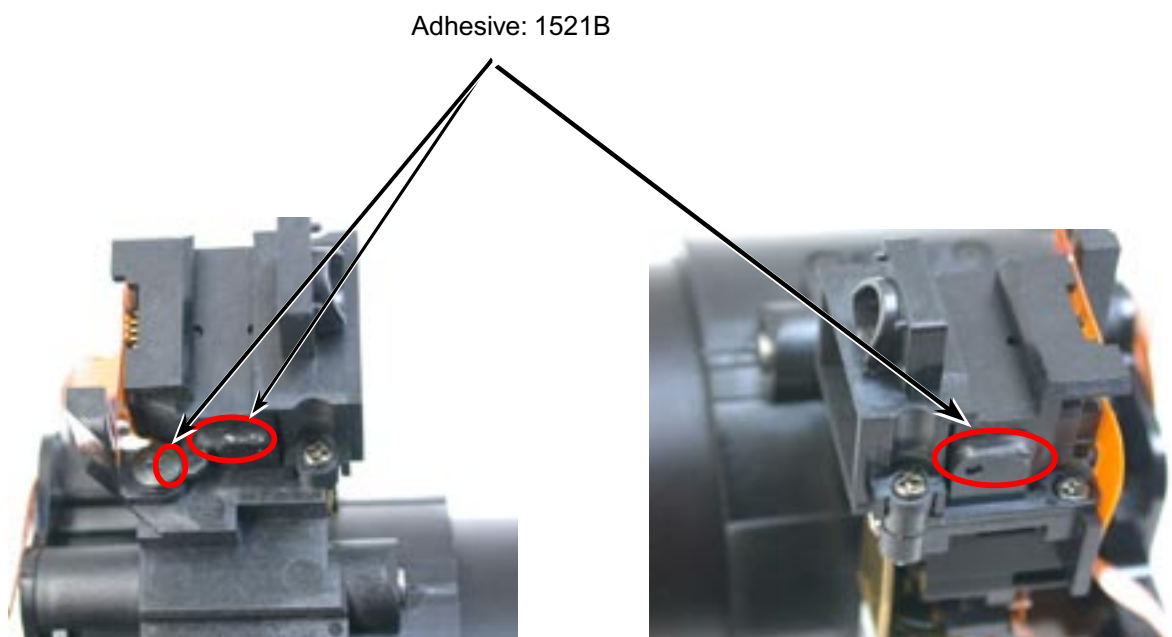

Fig.2
- After the adjustment, fix the adjusting screw and the PAF sensor unit with the adhesive. (Fig. 2)